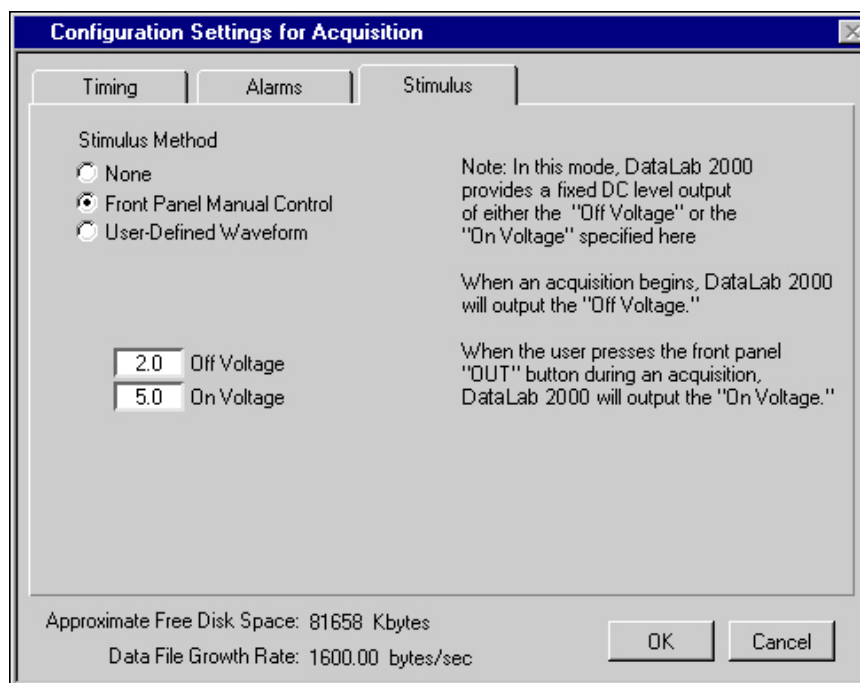

Figure B-8. Setting Up Stimulus in the Configuration Settings for Acquisition Dialog Box
3. Select **Configure»Settings**, then set your parameters for timing, alarms, and output stimulus signals in the dialog box that appears. Figure B-8 shows how to set up the Stimulus tab of the Configuration Settings for Acquisition dialog box. If you choose to view the stimulus signal as you acquire your data, be sure to include the analog input channel connected to the analog output in the Scan List of the Timing tab.